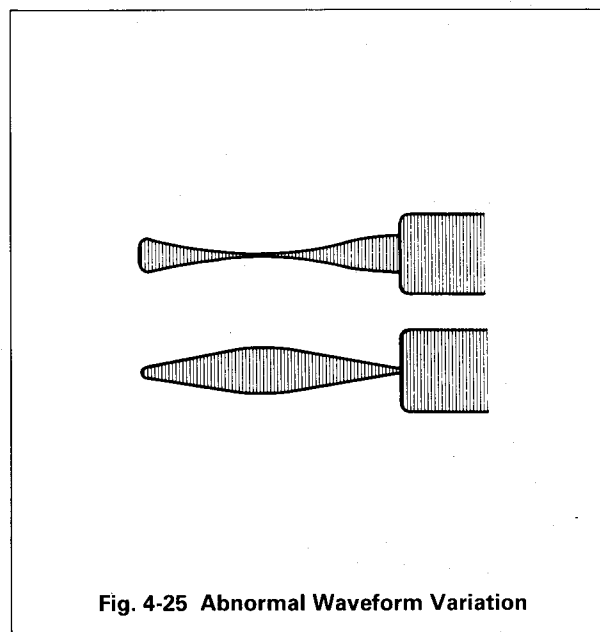

Fig. 4-25 Abnormal Waveform Variation
D. If non-linear FM waveform occurs as shown in Fig. 4-25 adjustment is necessary.